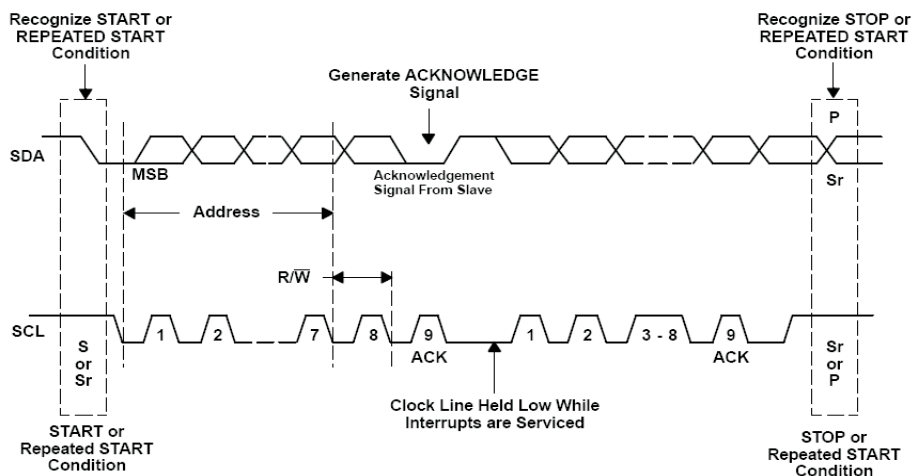

Figure 34. Bus Protocol
The master generates further SCL cycles to either transmit data to the slave (R/(W) bit = 0) or receive data from the slave (R/(W) bit = 1). In either case, the receiver needs to acknowledge the data sent by the transmitter. So an acknowledge signal can either be generated by the master or by the slave, depending on which one is the receiver. 9-bit valid data sequences consisting of 8-bit data and 1-bit acknowledge can continue as long as necessary. To terminate the data transfer, the master generates STOP condition by pulling the SDA line from low to high while the SCL line is high (see Figure 34). This releases the bus and stops the communication link with the addressed slave. All I²C compatible devices must recognize the stop condition. Upon the receipt of a stop condition, all devices know that the bus is released, and they wait for a start condition followed by a matching address.